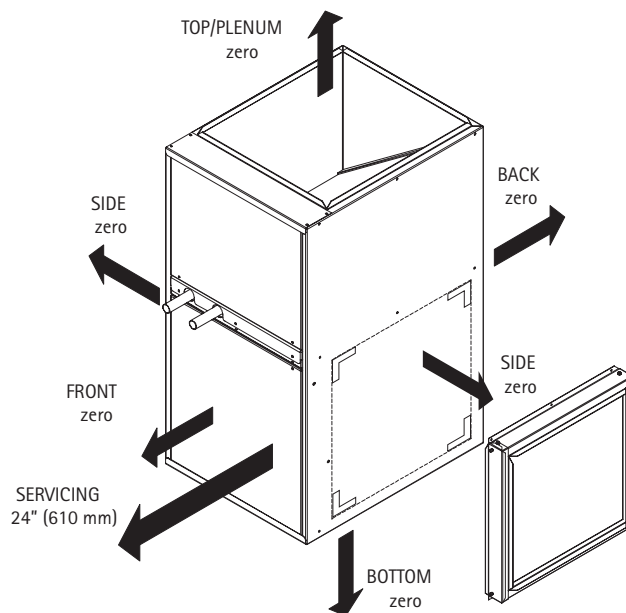

FIGURE 1 Minimum Clearance to Combustible Construction
7. The installer shall provide ample space for servicing and cleaning. Always comply with minimum fire protection clearances shown in Figure 1.